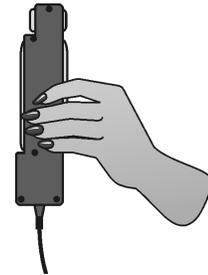

Figure 2
- b. Hold the Hand Dynamometer along the sides, in an upright position (see Figure 2). Do not put any force on the pads of the Hand Dynamometer.